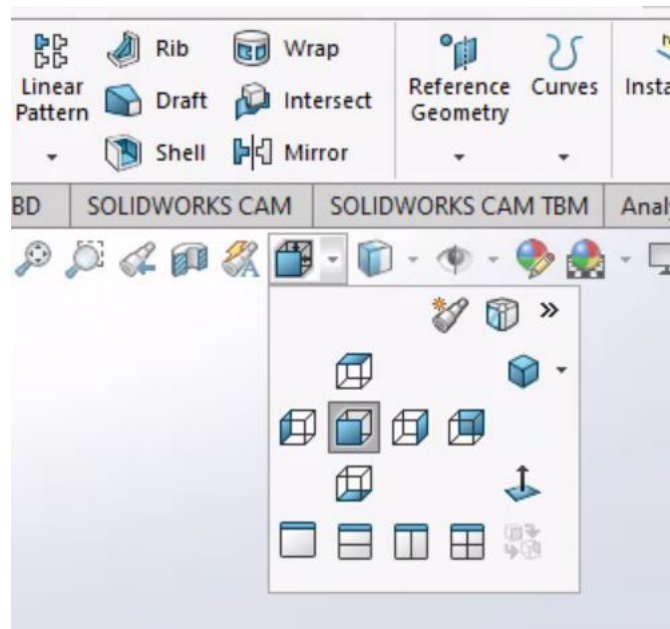

Figure 2: Change the view.
2. Try out different views. You can click on the views button (see Figure 2) or hover over the views to learn the keyboard shortcuts. The looking glass button on the left will automatically zoom to fit. If you are using a touchpad, avoid gestures that would normally scroll or zoom.